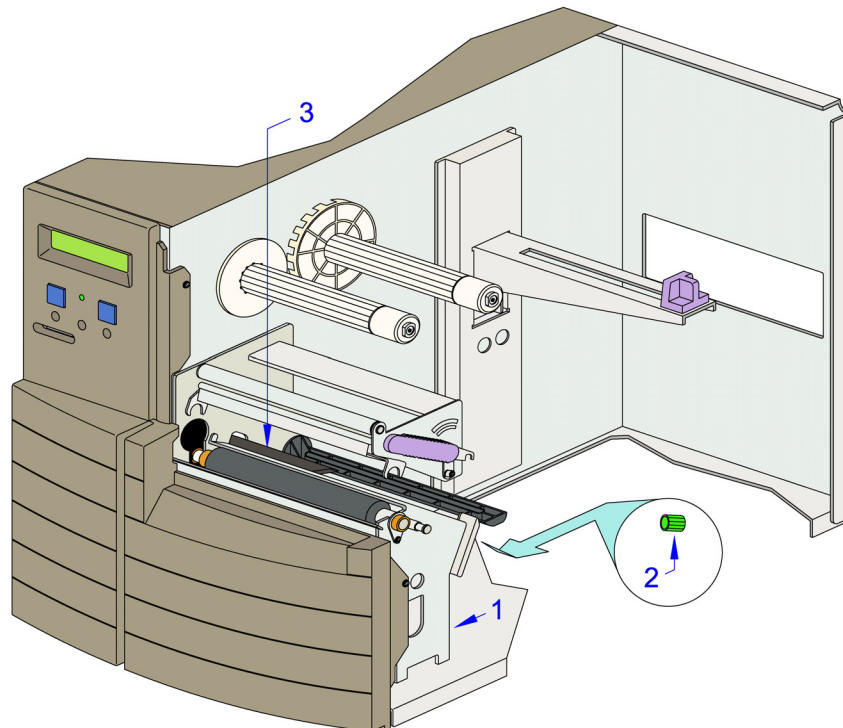

Figure 8-4, Label Sensor Positioning
- 1 Open the right housing cover to access print assembly (1, Figure 8-4).
- 2 Find label sensor adjustment knob (2) located behind lower print assembly (1).